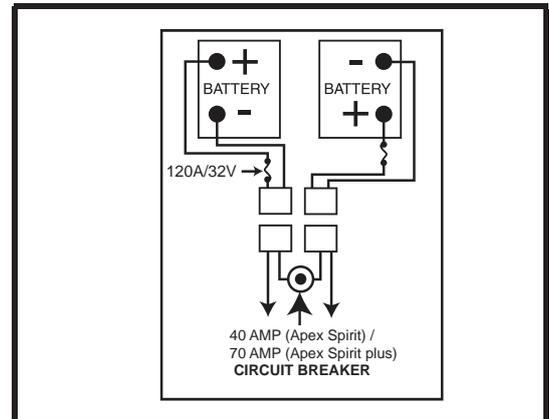

Figure 11. Battery Wiring Diagram
6. Place a new battery in each battery well. Face the battery terminals of each battery away from the seat post. See **figure 11**.